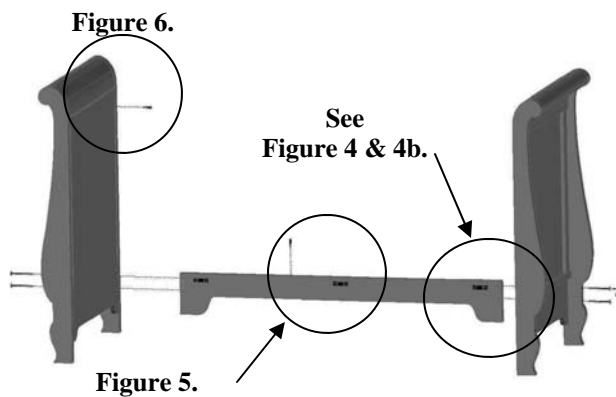

Figure 4b.
- Align the holes in the Base Rail with the holes in the Crib Ends and insert (4) 3 1/2" connector bolts from the outside of the Crib Ends. Make sure the Brackets attached to the Base Rail are facing the inside of the Crib. See Figure 4b.